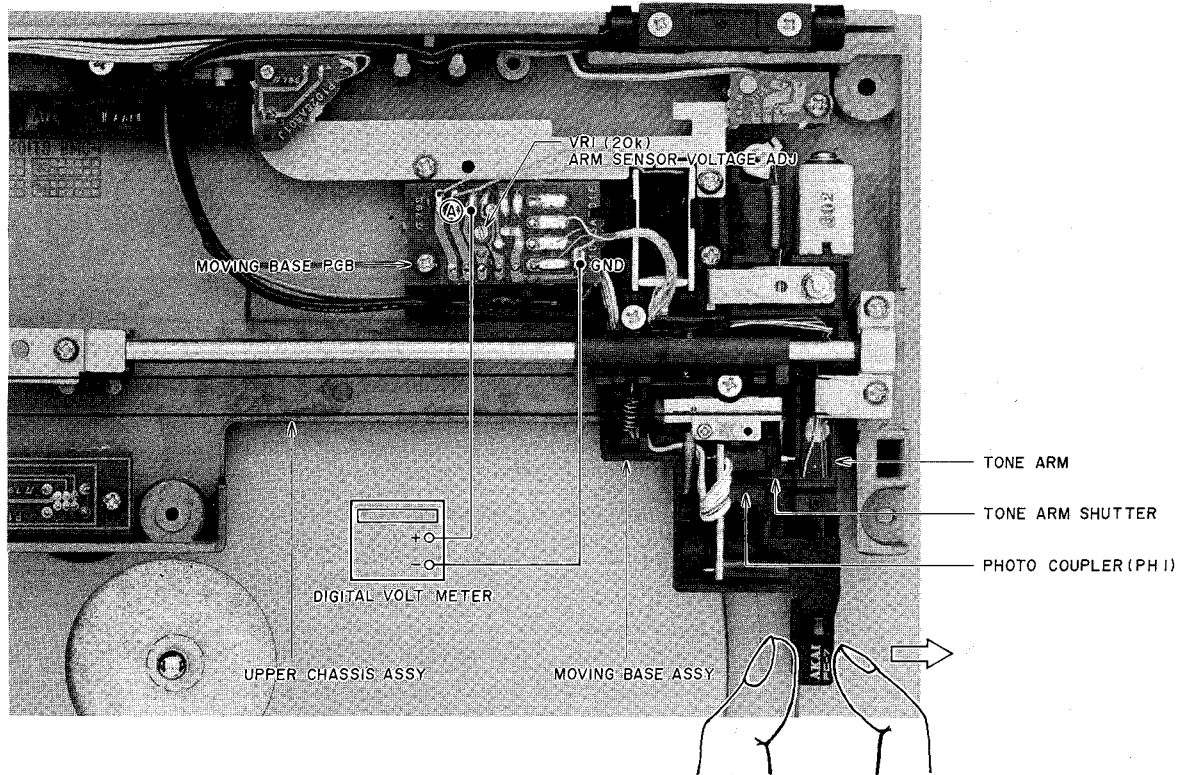

Fig. 7-1 Inside View of Moving Base Block
7-1. ARM SENSOR VOLTAGE ADJUSTMENT (Refer to Fig. 7-1)
- 2) Connect a digital voltmeter between the point ① and ground. Move the Tone Arm by hand in the direction as shown in Fig. 7-1 to move the Tone Arm Shutter out of the photocoupler, and adjust VR1 on
- 3) After the adjustment in item 2) is completed, move the Tone Arm back to the original position and confirm that the voltage at the point ① is more than 1.8V. If the voltage is less than 1.8V, re-adjust VR1 so that the voltage is $2.0V \pm 0.1V$.